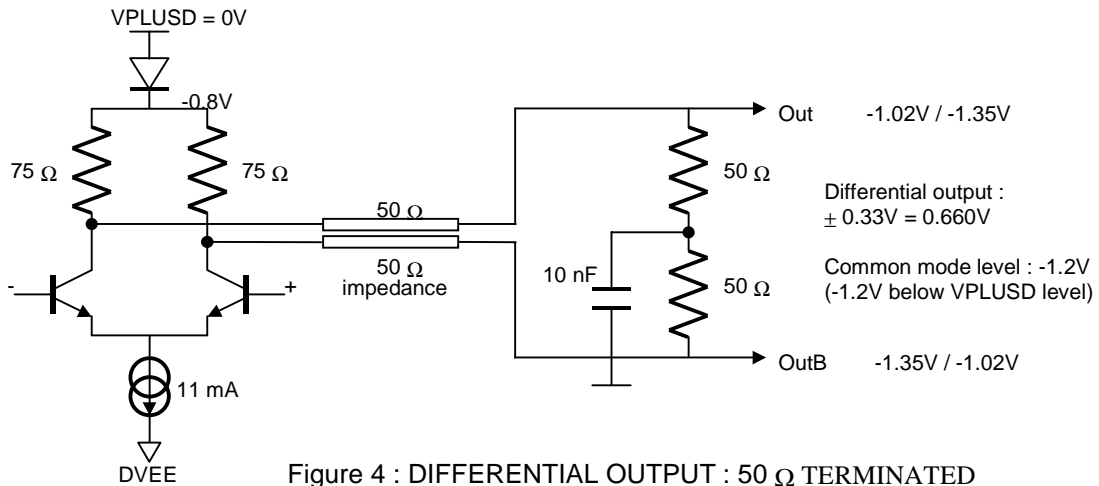

Figure 4 : DIFFERENTIAL OUTPUT : 50 Ω TERMINATED
2) 50 ohms impedance transmission lines, 50 ohms differential termination (Fig. 4) :